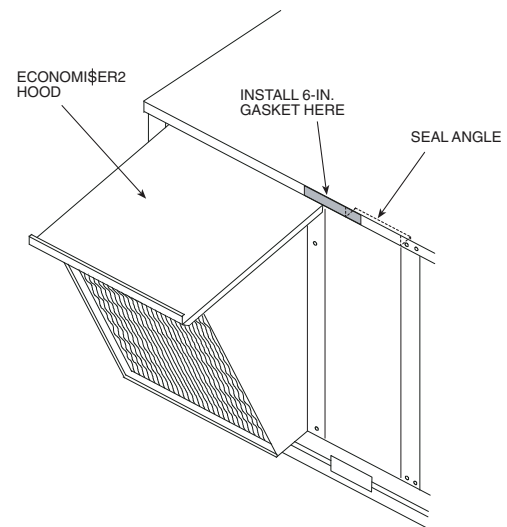

Fig. 3 — Install 6 in. Gasket
2. Locate the 6 in. gasket strip. Remove the paper backing (exposing the sticky side) and install the gasket behind the hinged angle seal, closest to the hood assembly so that it covers the gap mentioned in the previous step. When properly installed, the gasket will sit partially behind the seal angle, across the edge of the door opening, and will partially cover the hood assembly where it attaches to the unit. (See Fig. 3.)